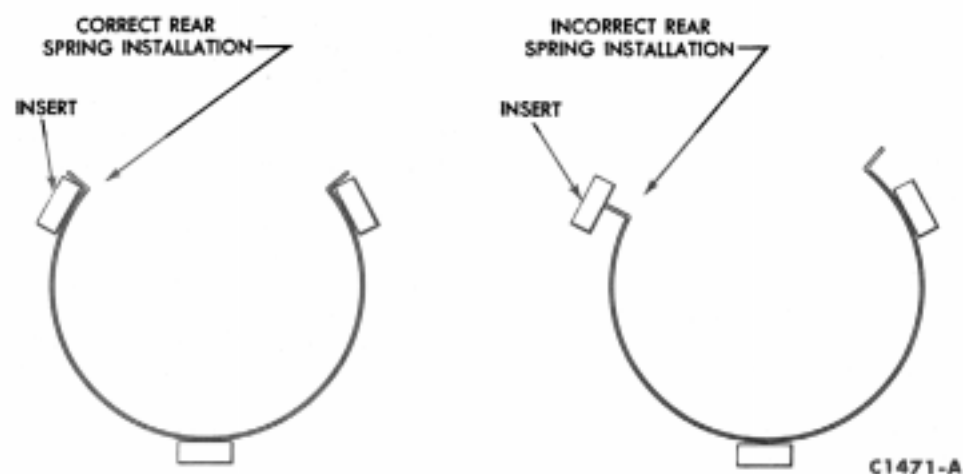

FIG. 22—First and Reverse Speed Synchronizer Insert Spring Installation
3. Install the rear insert spring (Fig. 22) in the groove of the first and reverse